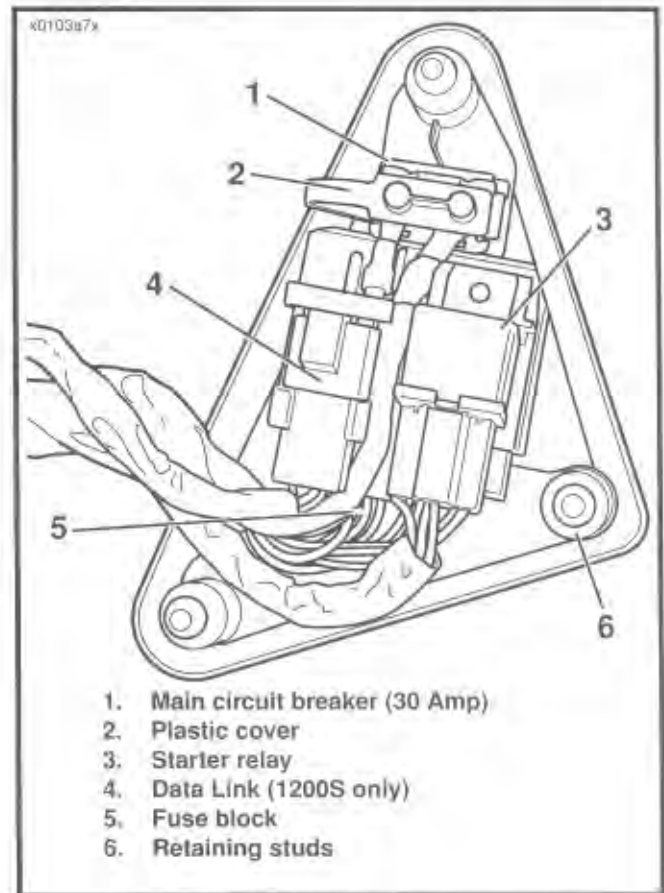

Figure 7-3. Electrical Bracket Components
3. See Figure 7-3. Remove plastic cover (2) from terminal studs of main circuit breaker (1). Remove hex nuts from terminals. Remove ring connections.
2. See Figure 7-3. Unplug starter relay (3).
3. See Figure 7-3. Remove main breaker (1).
4. Remove fuse block (5).
5. Remove starter relay (3).